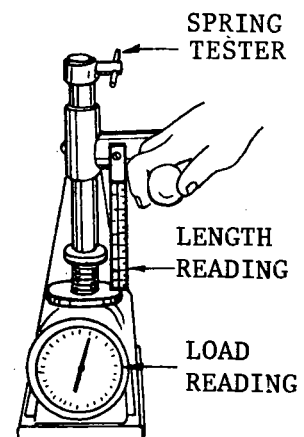

Fig. 8
c) Check the tension in the springs to the level specified (fig. 8).